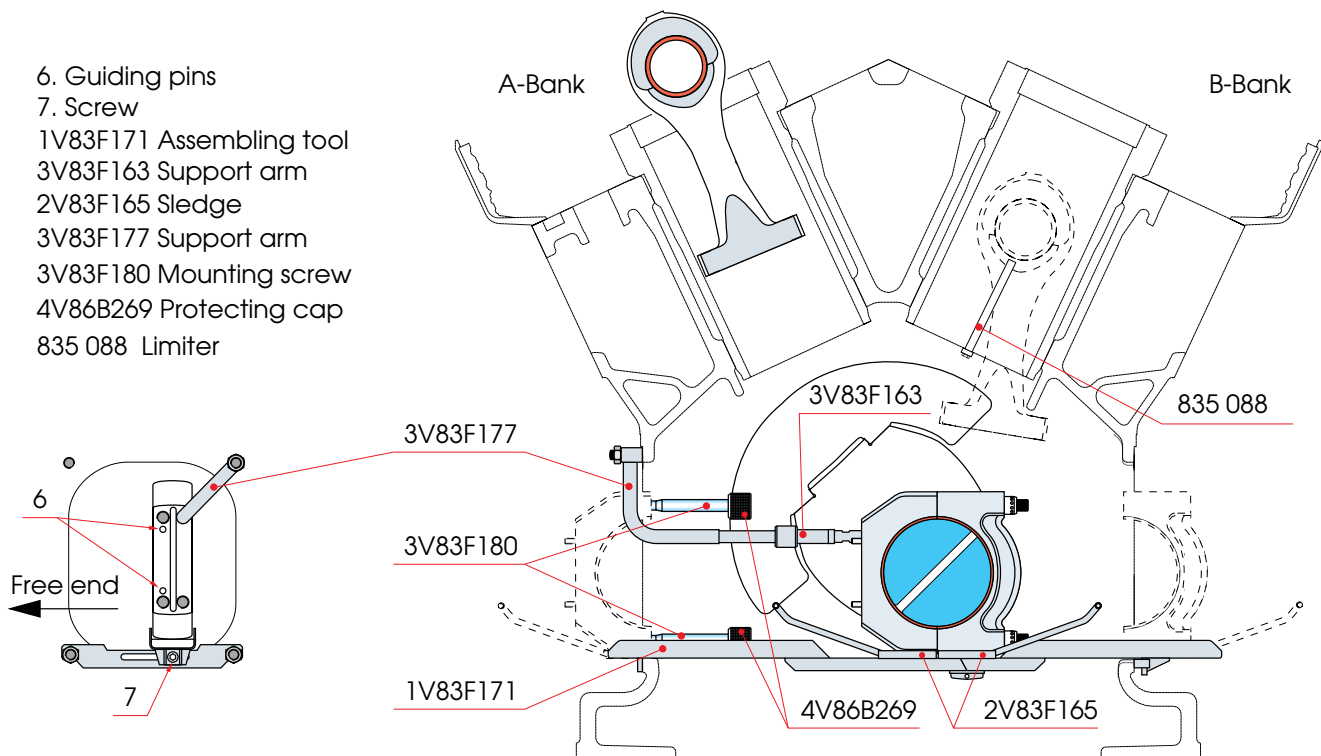

Fig 11-8
- 1** Mount the limiter 835088 (see table 1) in the lower part of cylinder liner and tighten the screw, see Fig 11-8.
- 2** Separate the upper part (1) from the big end (5) by rotating the crankshaft towards BDC. Support the upper part of the connecting rod to avoid damaging the cylinder liner. **Note! To avoid damaging the guiding pins the separation of the upper part (1) and the big end (5) should be done aligned.**
12 Mount the limiter 835088 (see table 1) in the lower part of cylinder liner and tighten the screw, see Fig 11-8.
20 Mount the assembly rail 2V83F171 through the crank case openings on the lower crank case cover studs and tighten the nuts, see Fig 11-8.
23 Mount the support arm 3V83F163 on the upper threads (M24) of the big end and support arm 3V83F177 on the upper crank case stud, see Fig 11-8. Tighten the nut.
3 Mount the assembling tool through the crank case openings on the crankcase cover lower studs and tighten the nuts, see Fig 11-8. Mount the sledges 2V83F165 on the rail.
10 Mount the support arm 3V83F177 on the upper crank case stud, see Fig 11-8. Tighten the nut.
3 Mount the limiter 835088 in the lower part of cylinder liner and tighten the screw, see Fig 11-8.